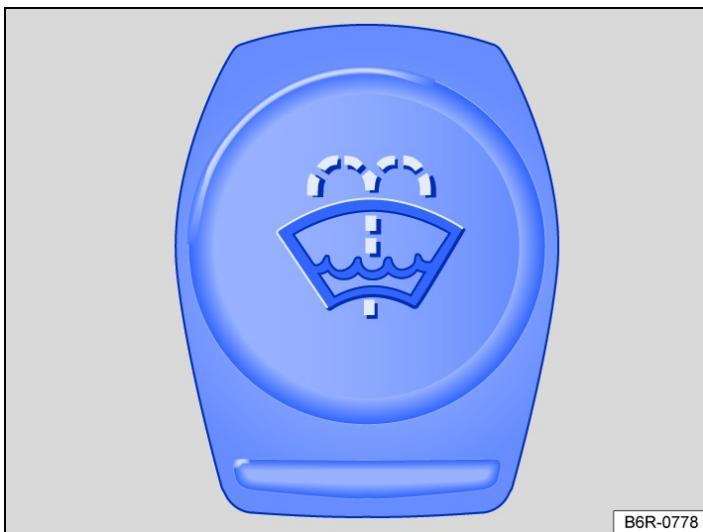

Fig. 1 In the engine compartment: cap of washer fluid reservoir.
- The washer fluid reservoir is identified by the  symbol on the cap → Fig. 1.
- To refill, mix clean water (not distilled water) with a windscreen washer fluid recommended by Volkswagen → ①. Observe the mixture instructions on the packaging.